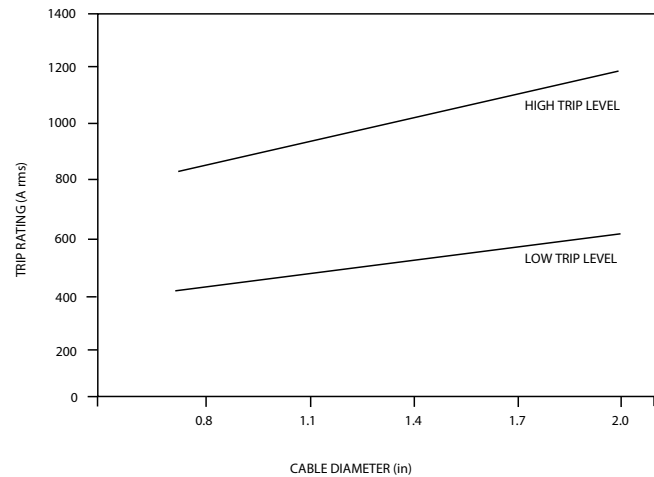

Figure 2. S.T.A.R Type DR faulted circuit indicator cable diameter vs . Trip value curves
The DR Faulted Circuit Indicator consists of a clamp-on sensing unit with a patented clamping mechanism that allows one unit to be used on cable sizes from 0.7" to 2.0". The FCI is available with either a low (LO) or high (HI) trip rating that is factory preset. The LO trip rating will trip at approximately 400 A on a 1.0" diameter cable, while the HI trip will trip at approximately 800 A on the same size cable. The trip rating will vary slightly depending on cable dimensions. Refer to figure 2 for trip levels on other cable diameters.
- 3a. **Push the sensor onto the cable below the elbow at a location shown in Figure 2 while holding the shotgun stick horizontal.** The triggering mechanism will release the clamping arms and securely attach the device to the cable.